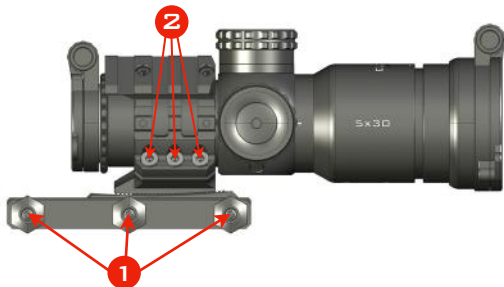

FIG.2
- 2) Loosen the Base Nuts (Fig.2. Pos.1) and fit the mount to the rail, ensuring that the cross bolts fit correctly in the rail slots. Shoulder the rifle to check whether eye relief is correct, and adjust mount position accordingly. Torque the nuts down to **50 in.lbs (5.7Nm)** using a 13mm or 1/2" Socket.
- 3) If the scope needs to be levelled, loosen the ring screws and adjust the scope position until cant error is removed. Once you are happy with the position of your riflescope, begin to torque down your rings in a criss-cross pattern, moving between screws (Fig.2. Pos.2) and turning small amounts at a time. Use a torque of **1.2-1.5 Nm (10.6-13.3 in-lbs)** for the ring screws.